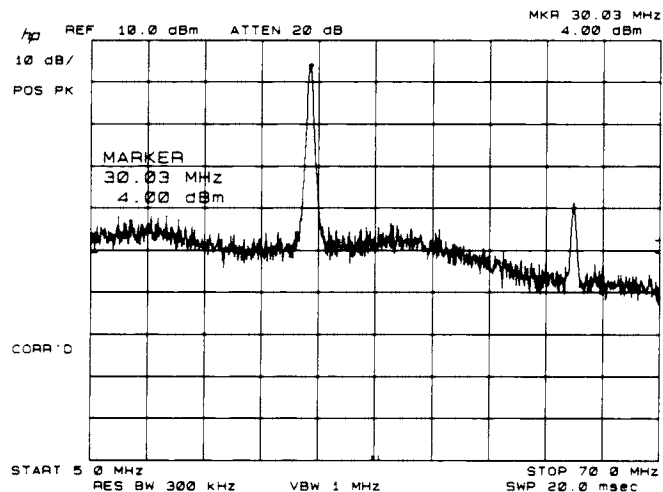

Figure 3-75.
46. The IF OUT fundamental and second harmonics should be visible at approximately 30 MHz and 60 MHz on the display of the second spectrum analyzer, as shown in Figure 3-75. Key in **(MARKER) (NORMAL) 30 MHz** to position a marker at 30.03 MHz on the display of the second spectrum analyzer.